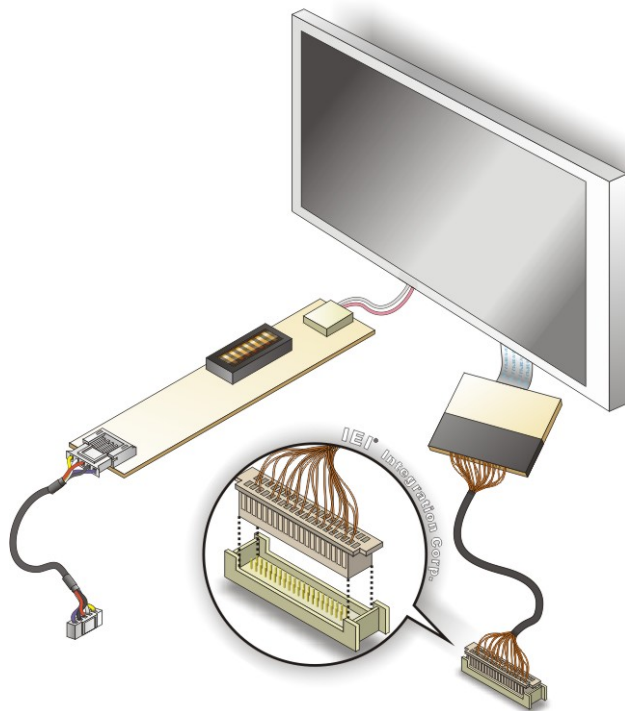

Figure 4-22: LVDS Connector
Step 2: Insert the cable connector. Insert the connector from the LVDS PCB driving board to the LVDS connector as shown in **Figure 4-22**. When connecting the connectors, make sure the pins are properly aligned.